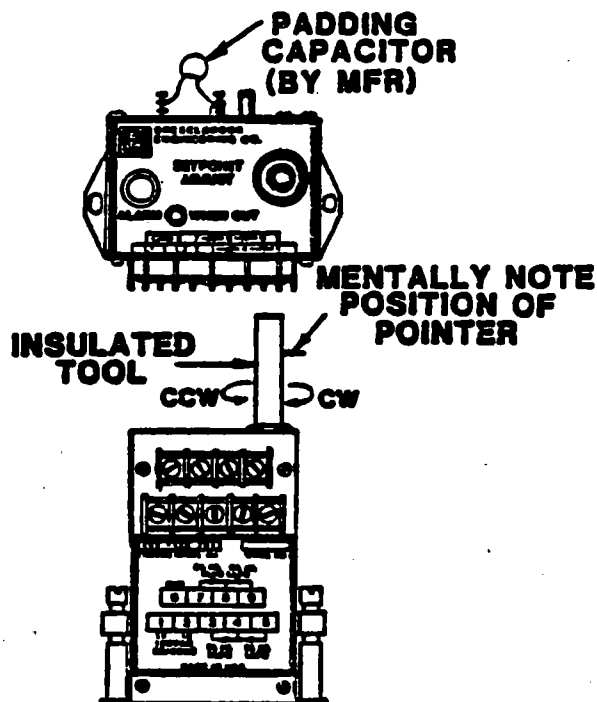

Fig. 3-3
When calibrating the instrument, be sure to use the red insulated tuning wrench provided with the instrument. For correct calibration, this tool must be used. See Figure 3-3. Note that the LED indicates relay energized, or normal condition (not alarm).
2. If the full CCW position is reached before the LED lights up, remove the padding capacitor from the electronic unit. See Figure 3-3. LED will now light.
3. Turn the setpoint adjustment slowly clockwise (CW) until the LED just goes out.
1. Add a 20pF NPO-type capacitor in parallel with the existing padding capacitor on the electronic unit. See Figure 3-3.
B. Using the insulated tool supplied with the instrument, turn the tuning adjustment to the full counterclockwise (CCW) position. See Figure 3-3.
C. Counting the number of turns, turn the adjustment slowly clockwise (CW) until the relay just operates. (LED goes out). Record the number of turns.
D. Turn the adjustment slowly clockwise (CW) five more turns.